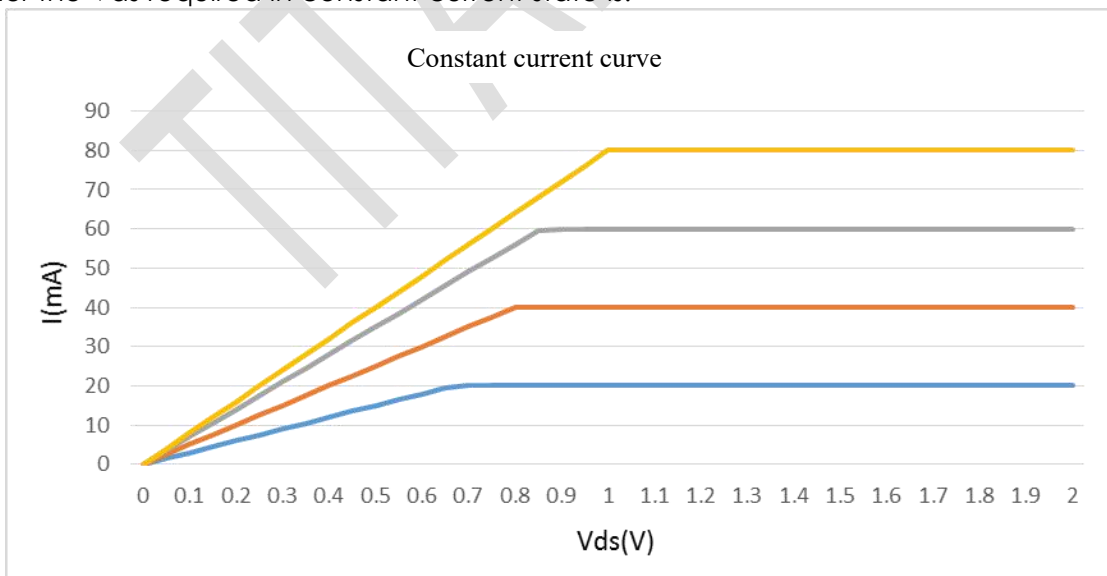

Figure 7
7. Application Figure 7: External Switch Constant Current Drive IC